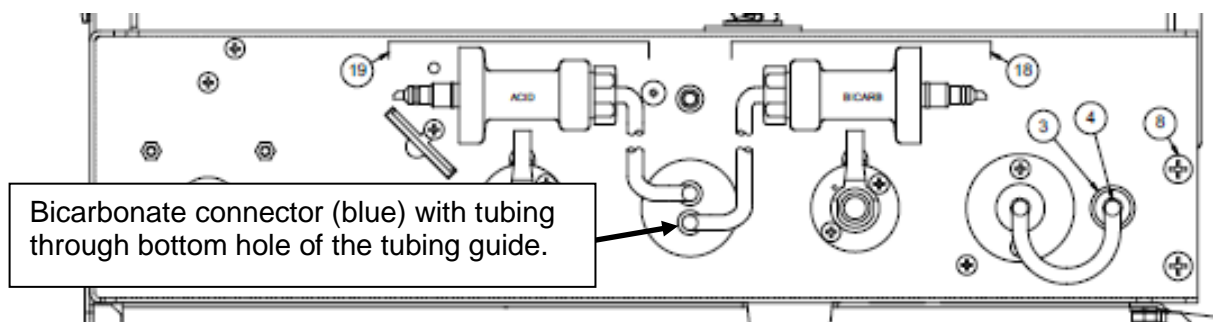

Figure 15
22. Route the other end of the new extended tubing attached to the bicarbonate connector through the bottom hole of the tubing guide (Figure 15).